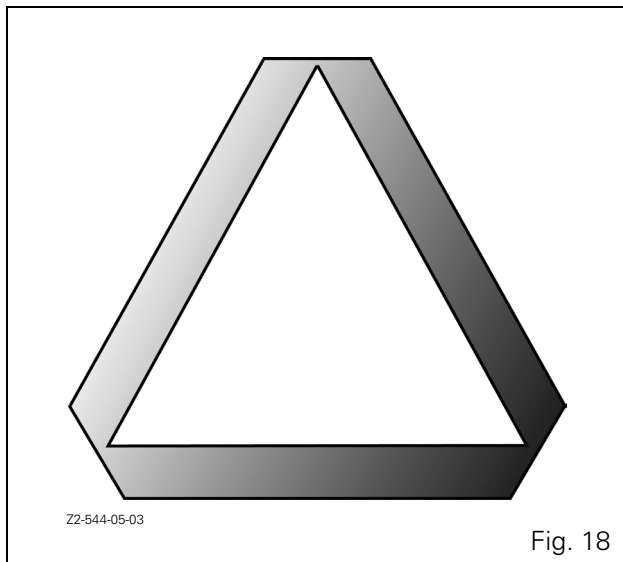

Fig. 18
- Ensure that the tractor and equipment are fitted with emergency warning triangles and other markings recommended to improve visibility when driving on roads, unless otherwise indicated (Fig. 18).